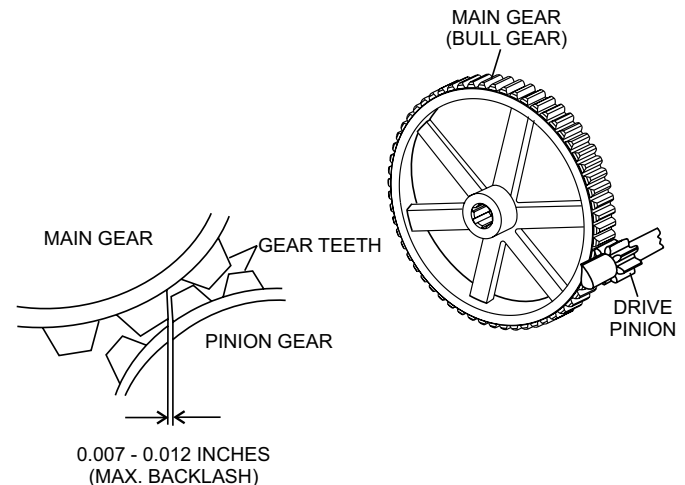

Figure 43. Drive Pinion and Main Gear (Backlash)
3. Using your hand, slightly move (rock) the drive pulley back and forth to determine the amount of backlash. Insert a feeler gauge between the gears to determine the backlash distance. Backlash should range between 0.007–0.012 inches (Figure 43).